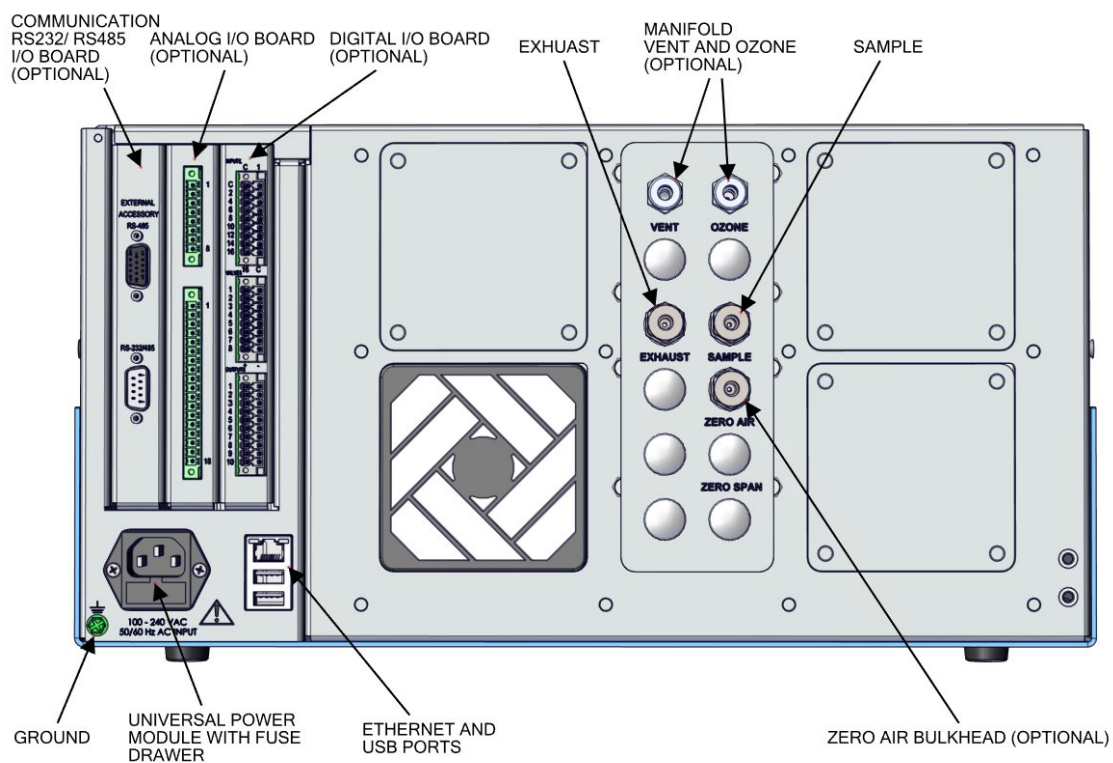

Figure 2-5. 49iQ Rear Panel
1. Connect the sample line to the SAMPLE bulkhead on the rear panel (Figure 2-5). Ensure that the sample line is not contaminated by dirty, wet, or incompatible materials. All tubing should be constructed of PTFE, 316 stainless steel, borosilicate glass, or similar tubing with an OD of 1/4-inch and a minimum ID of 1/8-inch. The length of the tubing should be less than 10 feet.